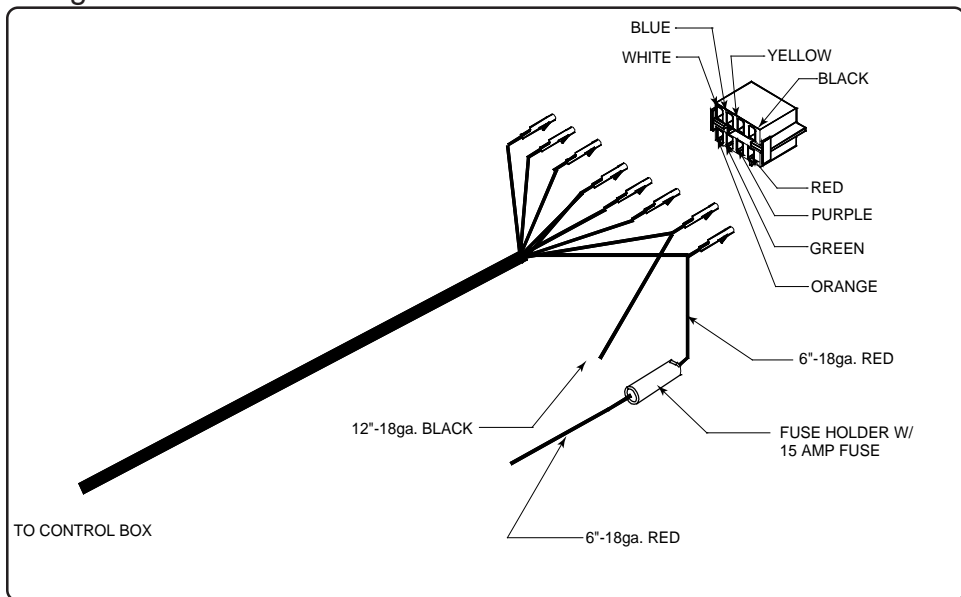

Figure 6
- 4) If not already done, install the terminal pins into the appropriate sockets of the Control Harness Amp connector as illustrated in figure 6.